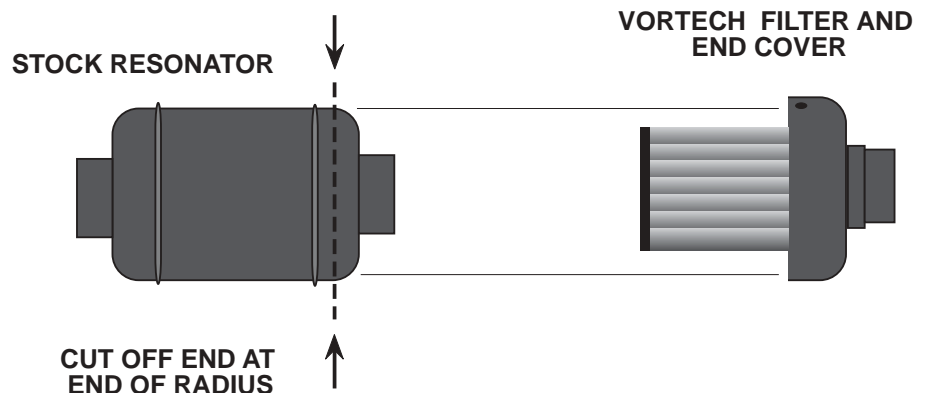

Fig. 11-a
- A. Modify the stock resonator chamber by cutting off the end at the point where the radius stops. (See Fig. 11-a.)